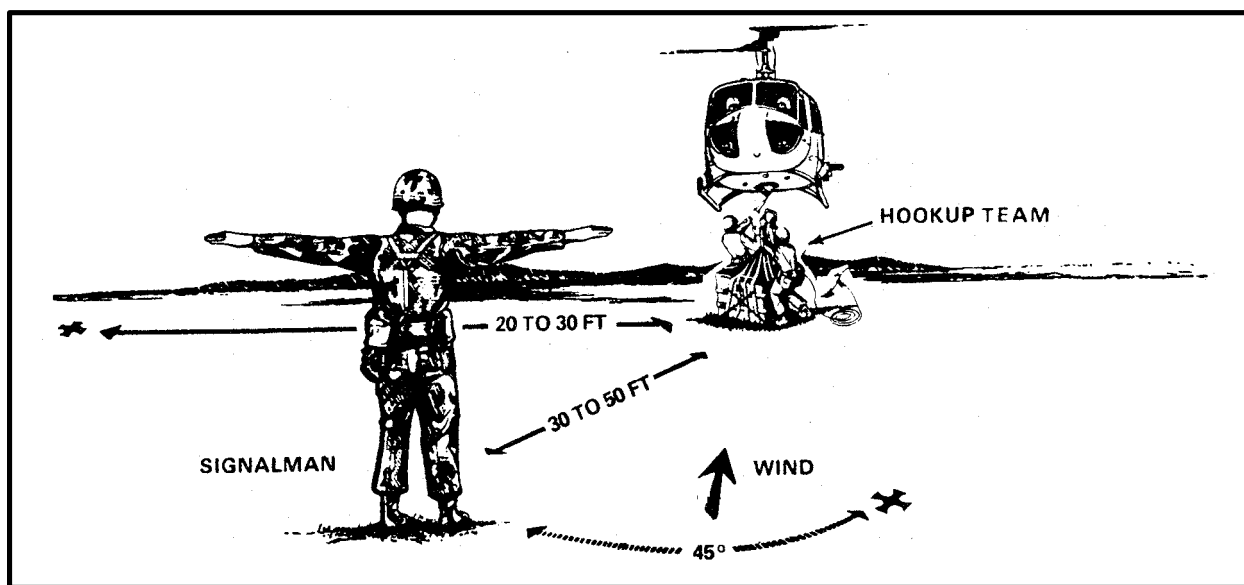

Figure 5-6. Relationship of Aircraft, Signalman, and Hookup Crew
(3) If the signalman cannot determine which pilot is flying the aircraft, he should position himself at a 45-degree angle from the nose of the aircraft in an open area so the pilot can clearly see him and his hand-and-arm signals. The signals must be precisely given to prevent any misunderstandings between the signalman and the pilot. While the helicopter is hovering, the signalman is responsible for the safety of the hookup team. The hookup team must alertly watch the helicopter during the complete operation (Figure 5-6).
(4) The helicopter approaches the load with the pendant or hook prepared for hookup. The pilot maneuvers in position over the load as directed by the signalman and the aircrew member. The aircrew member normally gives final maneuver and hookup instructions to the pilot over the aircraft interphone.
(5) After the aircraft passes over the hookup team, the rotor wash decreases. At that time, the hookup team stands up and watches for the cargo hook or moves under the aircraft for hookup on signal from the aircrew if not pre-positioned on or by the load. Once the helicop-